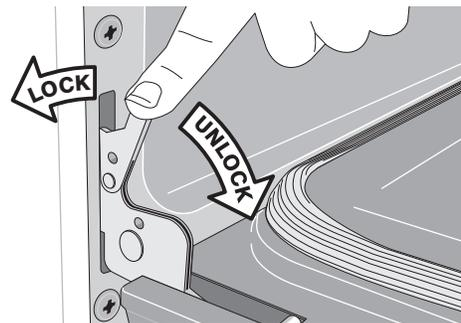

Figure 30: Hinge lock/unlock positions
2. Pull the door hinge locks on both left and right door hinges down from the oven frame completely towards the oven door (Figure 30). A tool such as a small flat-blade screwdriver may be required.
4. Push the door hinge locks up towards and into the oven frame on both left and right oven door hinges (Figure 30) to the locked position; then, close the oven door.